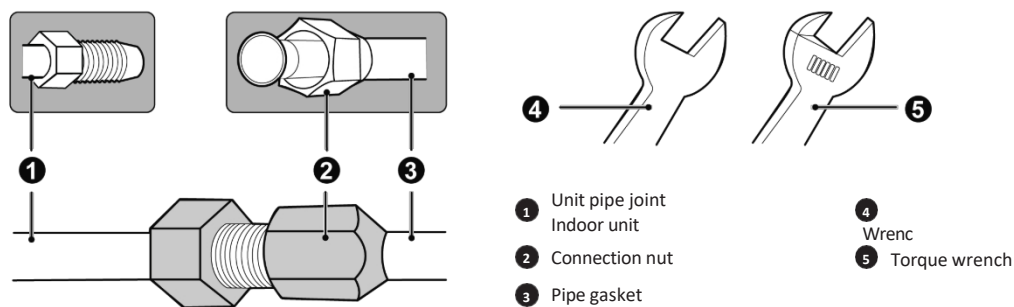

Fig. 4.7
- 1 Place the threaded fitting in the center of the flared end of the copper pipe and screw it in as shown in Fig. 4.7.